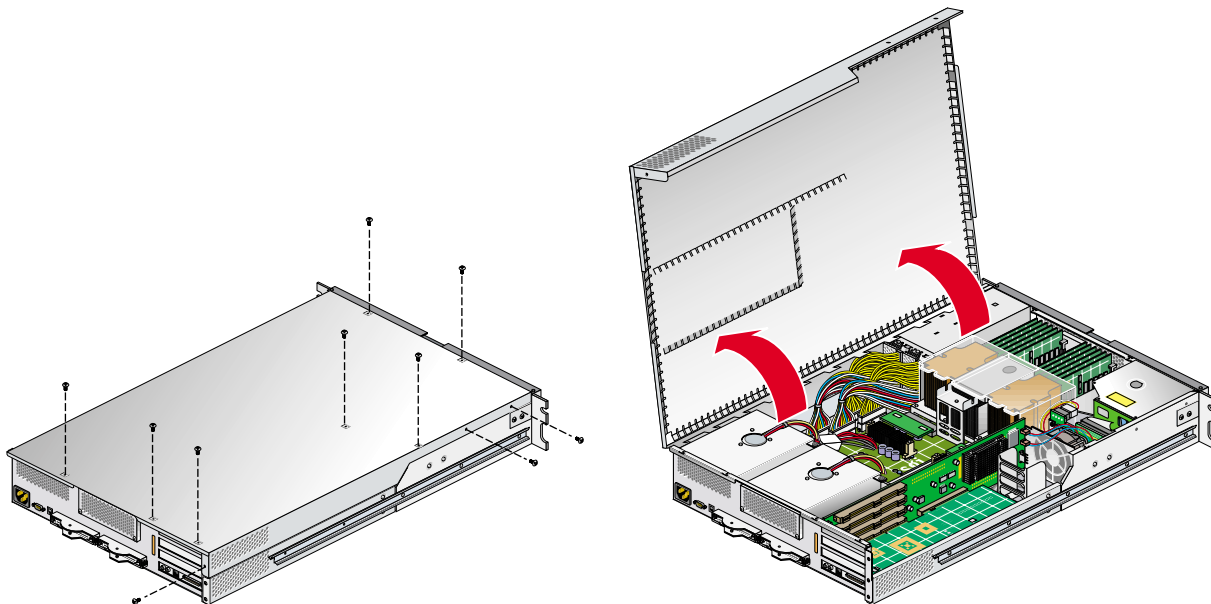

Figure 3-35 Opening the Module to Access the L1 Controller Display
5. To access the area where the L1 display is replaced, remove the ten Phillips screws shown in Figure 3-35, and lift and open the hinged cover.